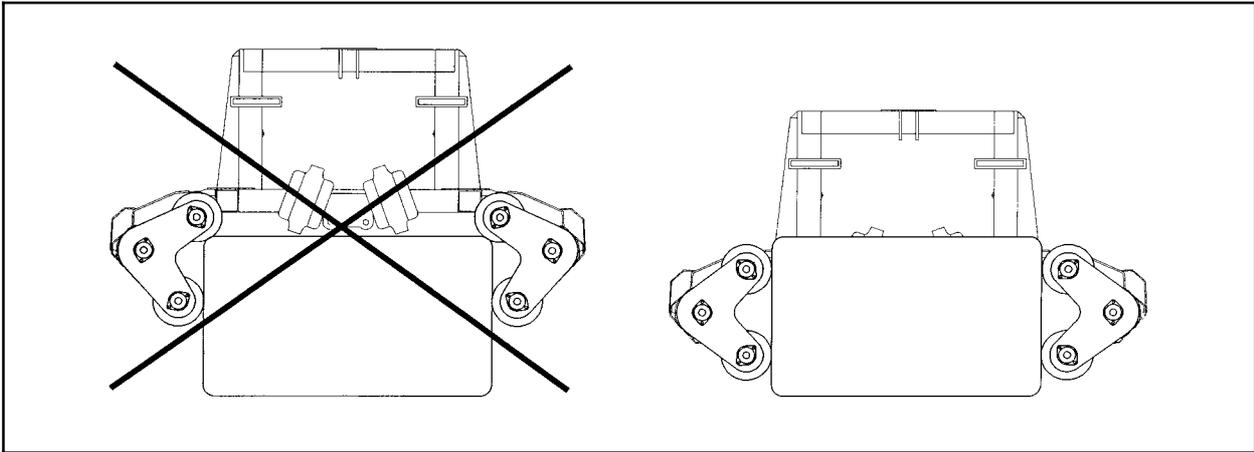

Fig.10-5
- a) When loading small square bales it is important to lower the rollers as close to the ground as possible. This to make all four rollers to get a grip on the side of the bale. If two of the rollers come over the bale, the machine will not be able to load it. (See fig. 10-5).